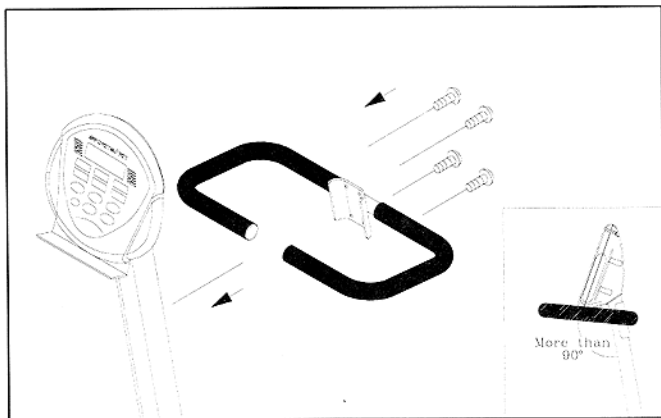

Fig.5
7. Use the 1/4" bolts to fix the handlebar to the upright post. Make sure the angle between the handlebar and the upright post is more than 90° (see Fig.5).